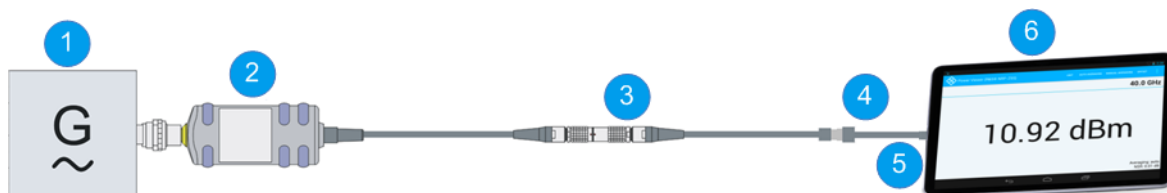

Fig. 8-1: Configuration with an Android device
1. Connect the cables as shown in figure 8-1: